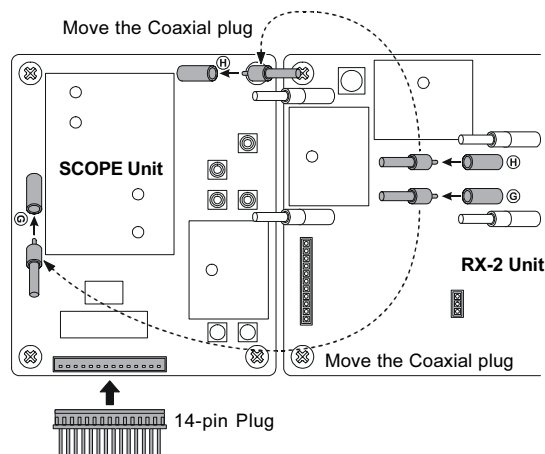

Figure 4
5. Referring to Figure 4, plug the 14-pin plug which was removed from the chassis in the previous step into the J7002 connector on the SCOPE Unit.
6. Locate the Coaxial plugs (labeled ⊙ and ⊕) installed in jacks (J4508 and J4507) on the RX-2 Unit. Unplug the Coaxial plug (⊙) from the RX-2 Unit and plug it into the J7003 on the SCOPE Unit. Unplug the Coaxial plug (⊕) from the RX-2 Unit and plug it into the J7001 on the SCOPE Unit (Figure 4).